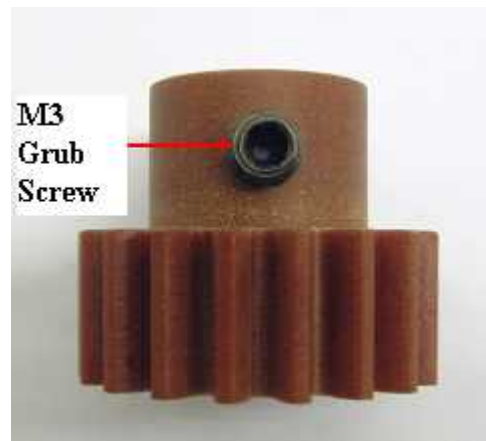

Figure 4.
3. The Stepper Driver Motor Drive Gear teeth should be set so that they sit approx 0.5mm just slightly above the pinion track. Now ensure that the grub screw that secures the Drive gear to the Stepper Driver Motor Drive Shaft is tight. See Figure 4.